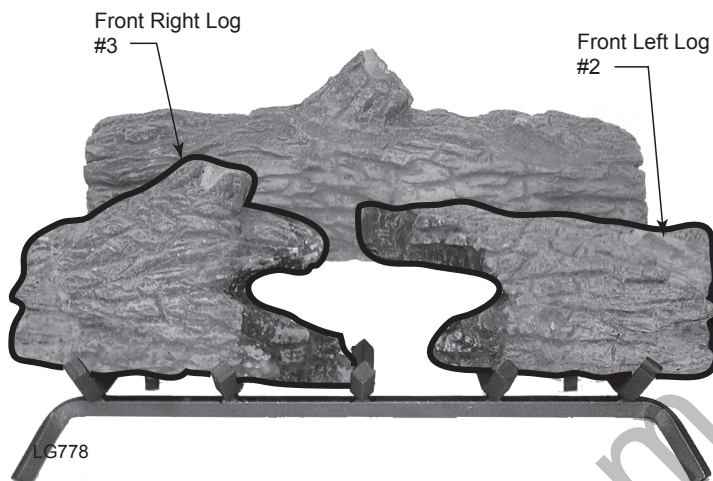

Figure 8 - Place Front Left Log #2 and Right Log #3
2. Place front left log #2 on the front of the grate and to the left. *Figure 8*
3. Place front right log #3 on the front of the grate and to the right. *Figure 8*